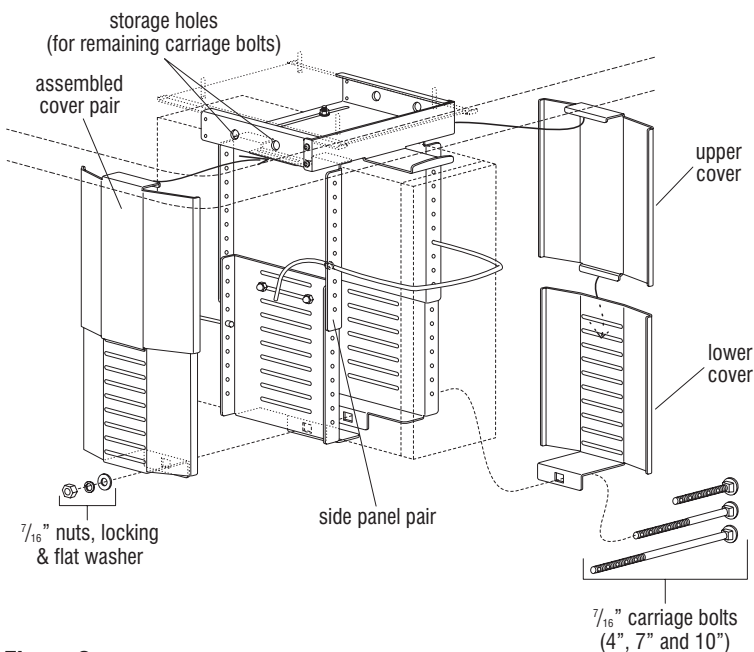

Figure 2
5. Prepare to install (or reinstall) the covers on each side of the CPU holder by first removing the $\frac{7}{16}$ " carriage bolt (Figure 1). Interlock each pair of upper and lower covers to match the height of the side panel pairs. Hook the upper tab of the cover pair into the slot at the top of the side panel pair. Align the hole at the bottom of the cover pair with the hole of the side panel pair (Figure 2).